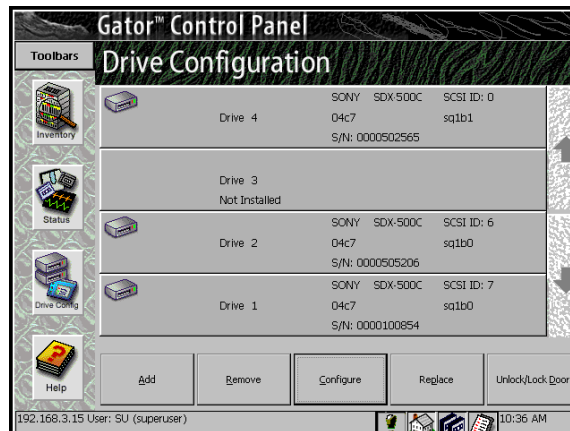

Figure 8-6 Drive Configuration screen.
1. Tap the **Drives** button on the Configuration Toolbar. This opens the Drive Configuration screen (Figure 8-6).